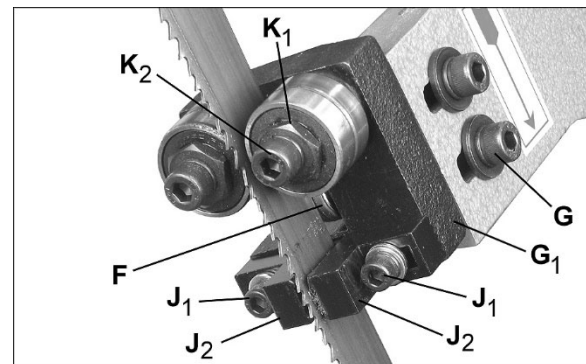

Figure 7-3: blade guide adjustments (left guide assembly shown)
The rear support bearing (F, Figure 7-3) prevents deflection of blade under pressure from the workpiece. Set support bearing so that it nearly contacts back edge of blade but can still be turned by hand when blade is not running.
2. Loosen two hex socket cap screws (G, Figure 7-3). Note: Left guide has two hex socket cap screws; right guide has one (HBS-916 only). The HBS-1018 has two screws on each guide.
4. Tighten two screws (G).
6. Loosen screws (J₁, Figure 7-3) and slide guide blocks (J₂) into contact with blade. Tighten screws.
8. On the **outer** bearing guide, hold the eccentric sleeve (K₁) with a 19mm wrench and loosen center locking screw (K₂). See Figure 7-3.